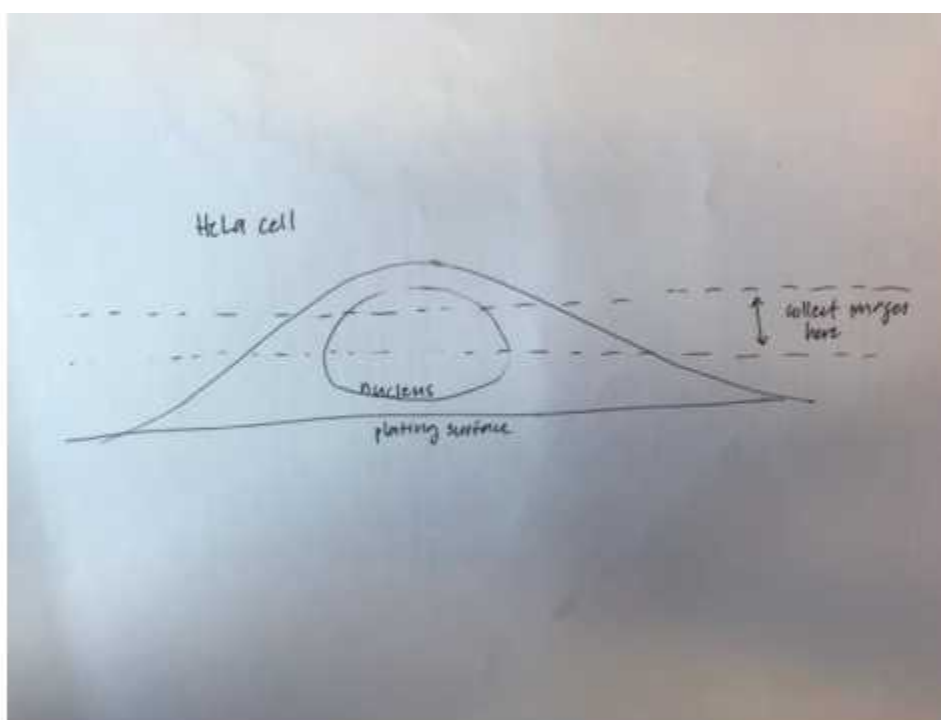

Figure 1. Schematic of HeLa cell volume. Dotted lines indicate target volume to image.
- 47 Collect images from fields of view with multiple cells exhibiting all visible tags. Collect volume from the 50th to 75th percentile of the cell (see Figure 1). If mitochondria are depolarized, can use OPTN signal (recruitment to fragmented mitochondria) to determine whether Parkin is expressed.